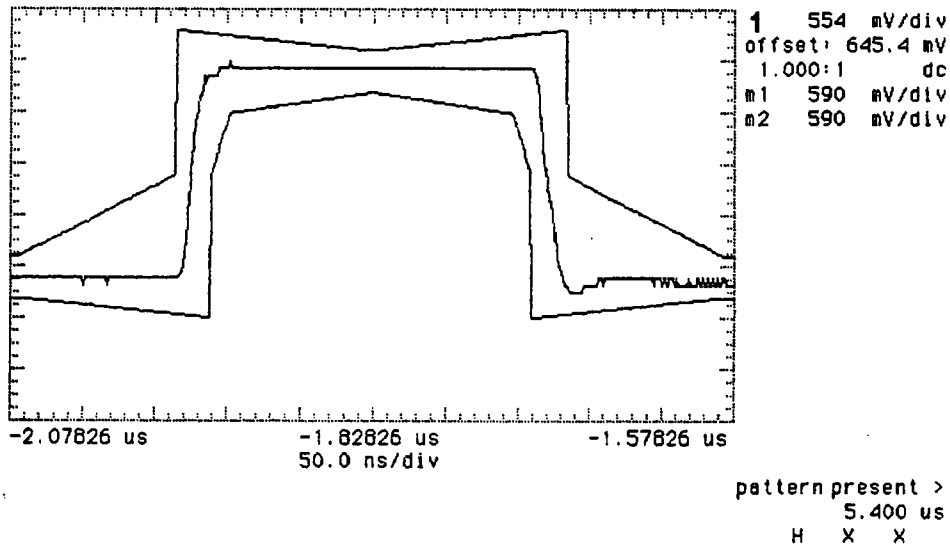

Figure 3-4. 2 Mb/s Isolated Positive Pulse
16. Press SHIFT **AUTOSCALE** on the oscilloscope to automatically align the pulse to the mask. Verify that the pulse falls within the mask as shown in Figure 3-4.